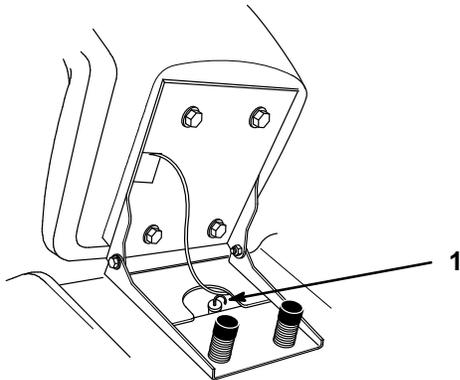

Figure 42
3. Clean around the transmission dipstick (Fig. 42) so dirt cannot fall into the filler hole and damage the transaxle.
4. Pull out the transmission dipstick and wipe the metal end clean (Fig. 42).
- Slowly pour the specified refill capacity of oil into the filler tube (Fig. 42).